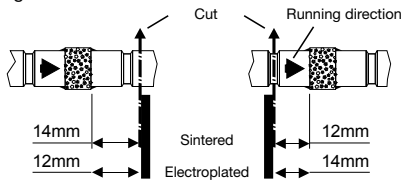

Fig. 2
- 1.2. Remove the rubber sleeve and reinforcing spring from the steel wire using pliers. Cleanly remove the remaining rubber using a knife and a wire brush (Fig. 2).
- 1.2. Remove the rubber sleeve and reinforcing spring from the steel wire using pliers. Cleanly remove the remaining rubber using a knife and a wire brush (Fig. 2). Push the rubber rings included with the sleeves onto the shiny ends of the wire (important for the flexibility of the wire in the sleeve area).